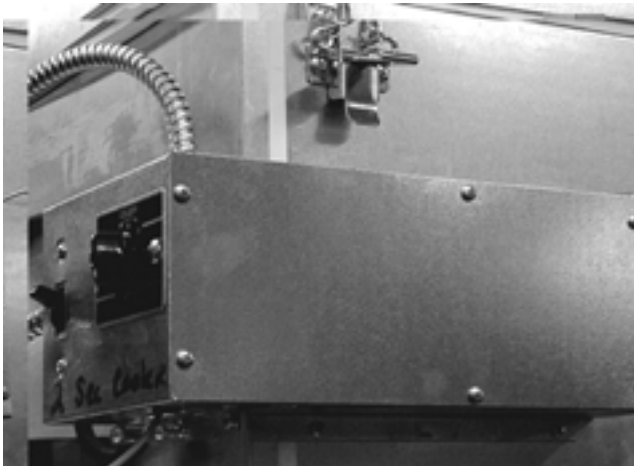

Figure 4-17
3. Remove the (6) screws from the thermostat/wiring box front (Figure 4-17).